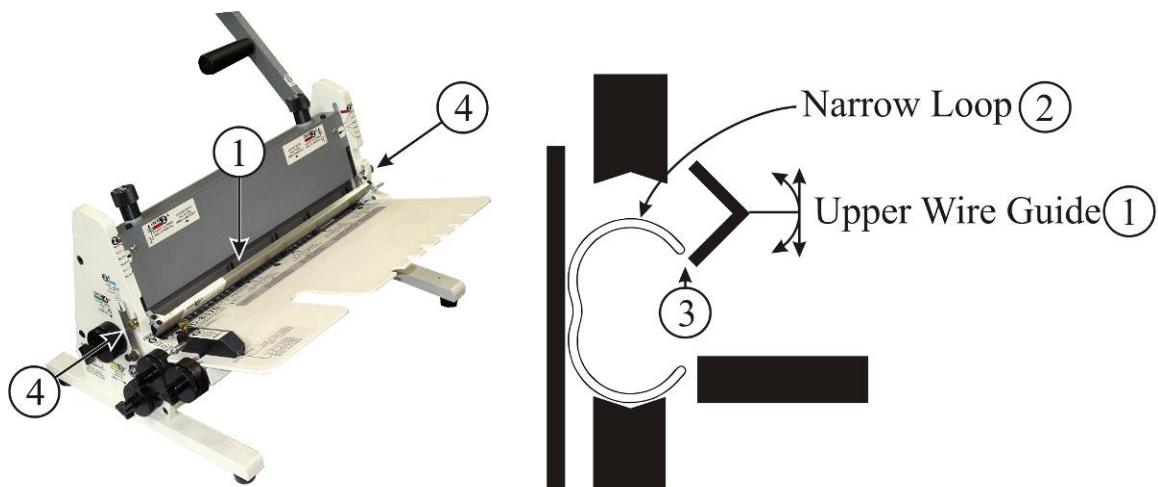

Fig. 7
**STEP 7, Upper Wire Guide:** See Figure 7.